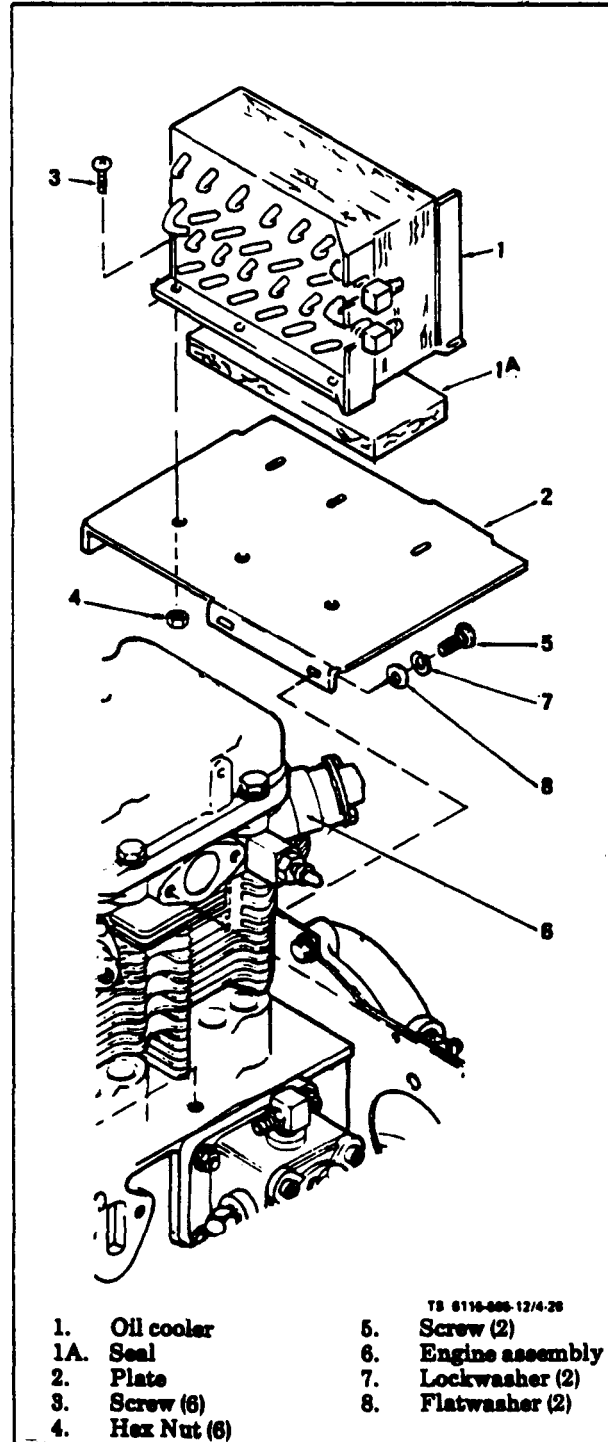
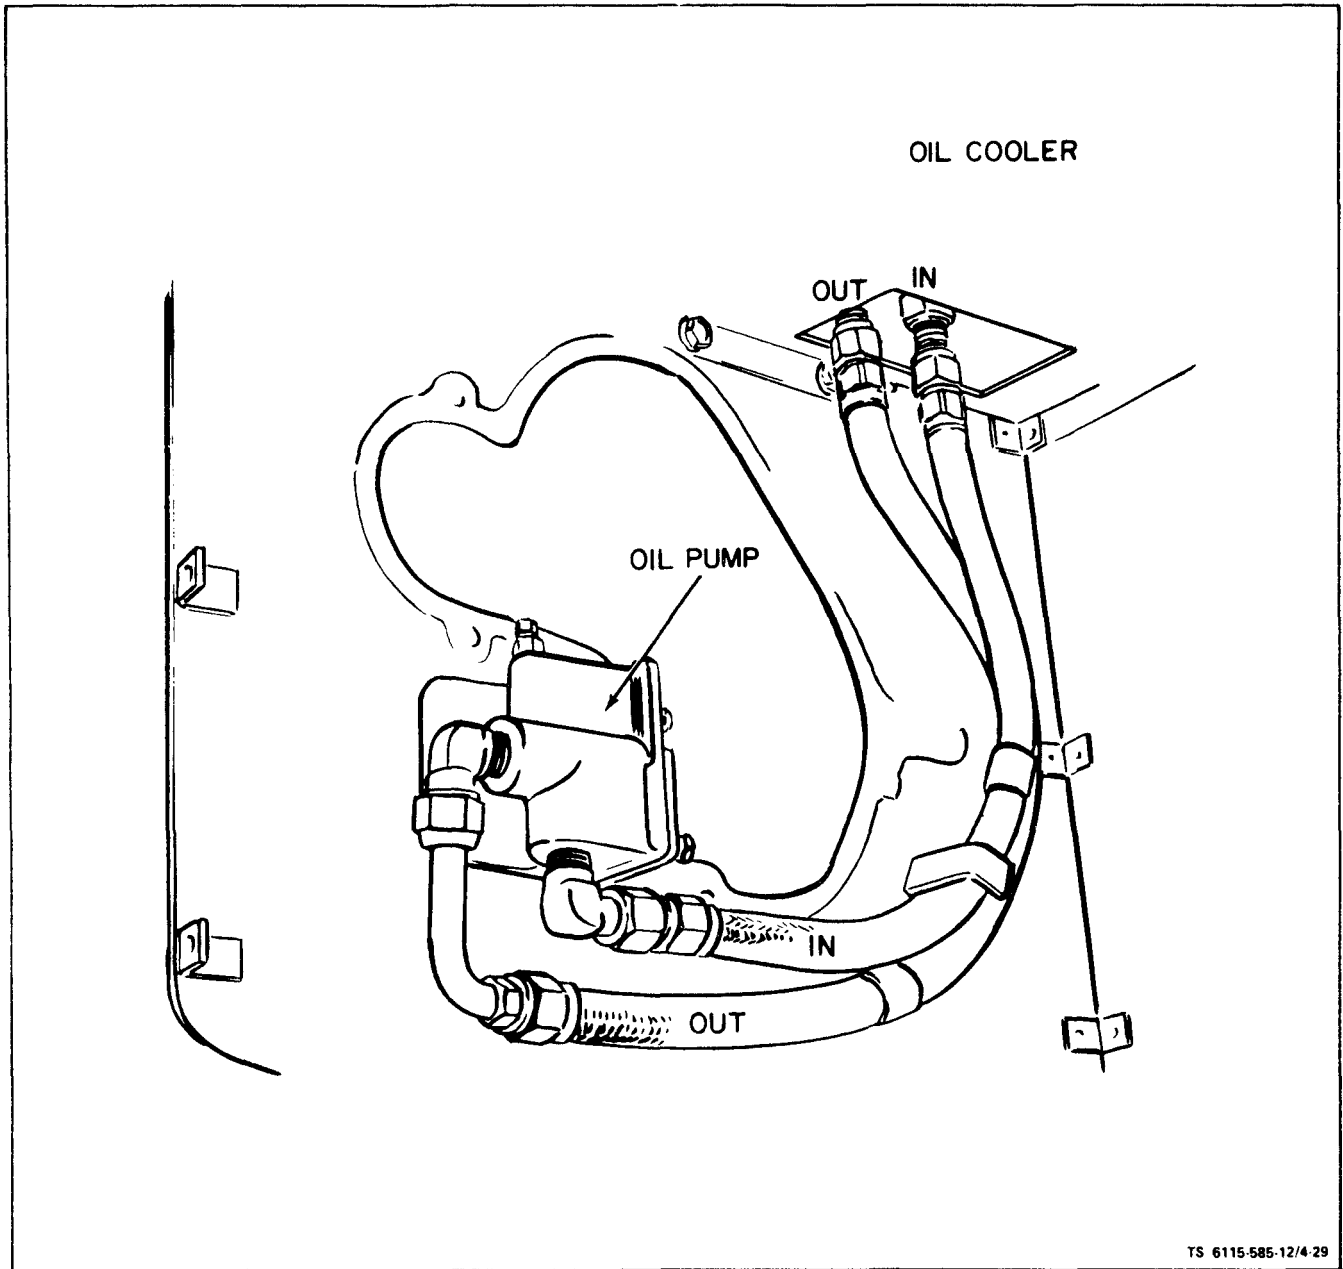

Figure 4-28. Oil Cooler Assembly:
Figure 4-29. Replacing Oil Cooler Hoses
a. Inspect (see figure 4-28). On ASK equipped generators, remove ASK cover assembly (para. 5-3). Inspect oil cooler (1) for physical damage. Visually check for leaks where oil cooler is connected to oil hoses (figure 4-29 or 4-29.1). Check that cooler is securely fastened to mounting plate (2, figure 4-28) and that plate is securely fastened to engine. Inspect oil hoses
for leaks and physical damage. Inspect seal (1A, figure 4-28) and replace if damaged. Blower housing must be removed to inspect cooler and hoses.
c. Remove. Remove blower housing. Disconnect oil cooler hoses at valve of oil filter adapter (see figure 4-29). Drain cooler into suitable container. Remove machine screws (3, figure 4-28) and hex nuts (4) attaching oil cooler (1) and oil cooler seal (1A) to mounting plate (2) and remove cooler (1). Remove and check hoses. Plug hose if not used immediately.
d. Replace. Install oil cooler (1) and oil cooler seal (1A) on mounting plate (2) and secure with screws (3) and hex nuts (4). Attach oil hoses to cooler as shown in figure 4-29 or 4-29.1. Replace blower housing shown in figure 4-29 or 4-29.1. Replace blower housing. Replace any oil lost. On ASK equipped generators, replace ASK cover assembly (para 5-3).